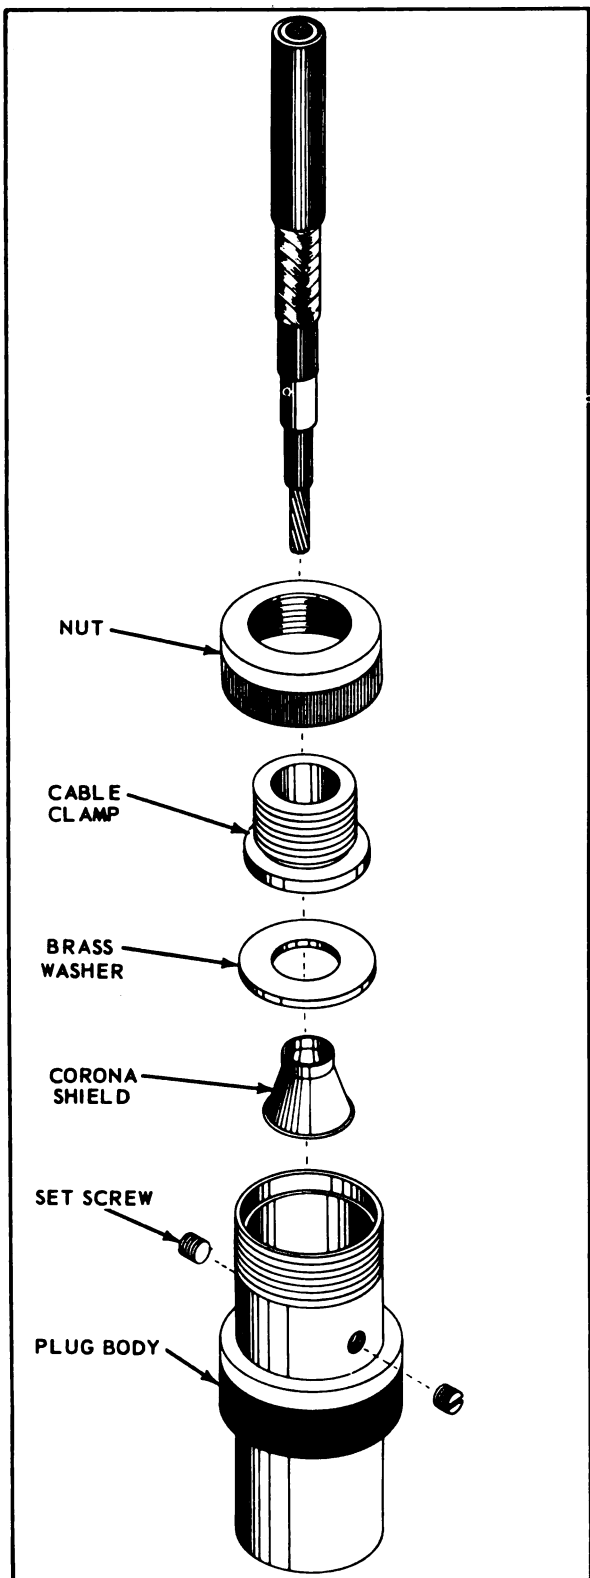

Figure 4-29. Pulse Connector - Ceramic Insert
a. Ceramic Insert Version (See figure 4-29) - consists of a plug or jack body assembled to coaxial cable with nut, cable clamp, washer and corona shield. Plug UG-174/U is typical of this version.
a. Disassemble nut, cable clamp, washer and corona shield from plug or jack body. See figure 4-29.